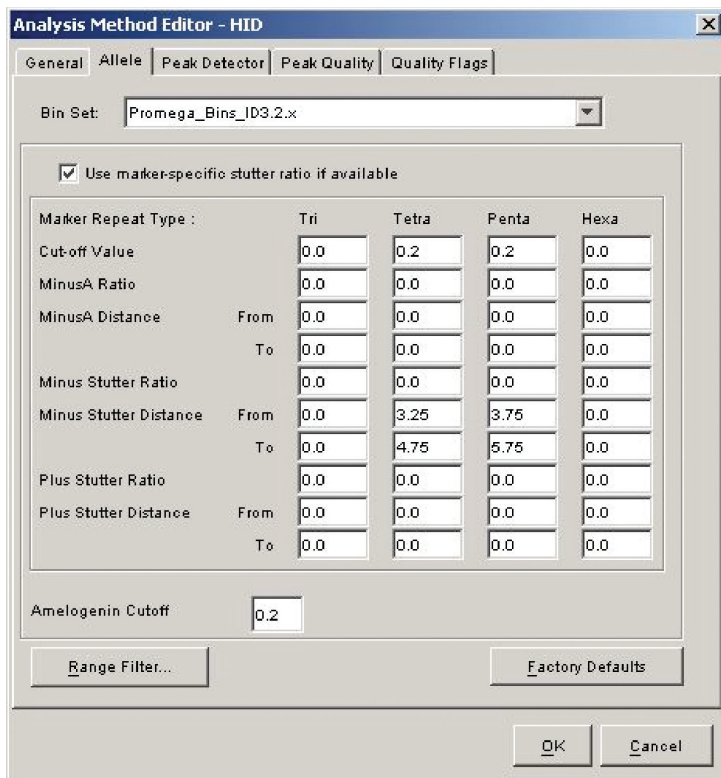

Figure 20. The GeneMapper® ID 'Allele' tab with settings for using a 20% peak filter.
6. Select the 'Allele' tab (Figure 20).
9. Enter the values shown in Figure 20 for proper filtering of peaks when using the PowerPlex® 16 System. For an explanation of the proper usage and effect of these settings, refer to the Applied Biosystems user bulletin titled "Installation Procedures and New Features for GeneMapper ID Software 3.2".